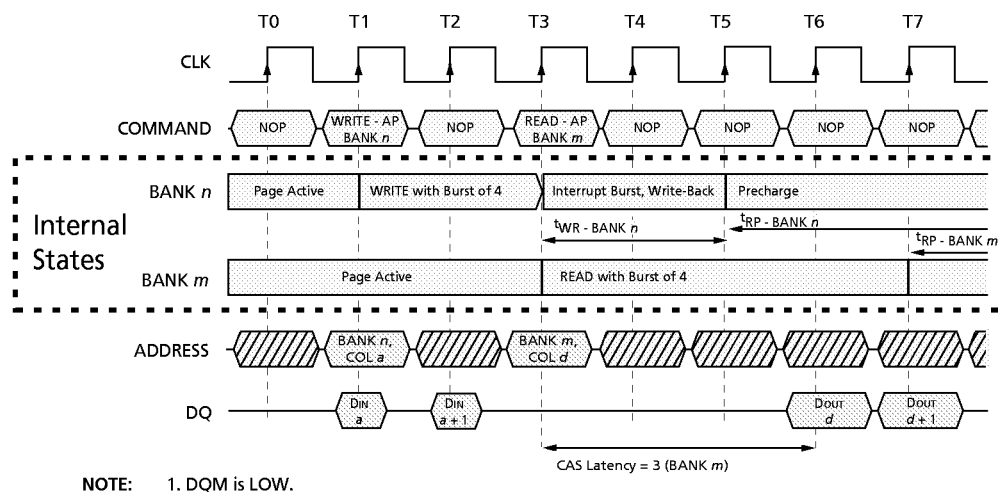

Figure 26
3. Interrupted by a READ (with or without auto precharge): A READ to bank m will interrupt a WRITE on bank n when registered, with the data-out appearing CAS latency later. The PRECHARGE to bank n will begin after t_{WR} is met, where t_{WR} begins when the READ to bank m is registered. The last valid WRITE to bank n will be data-in registered one clock prior to the READ to bank m (Figure 26).